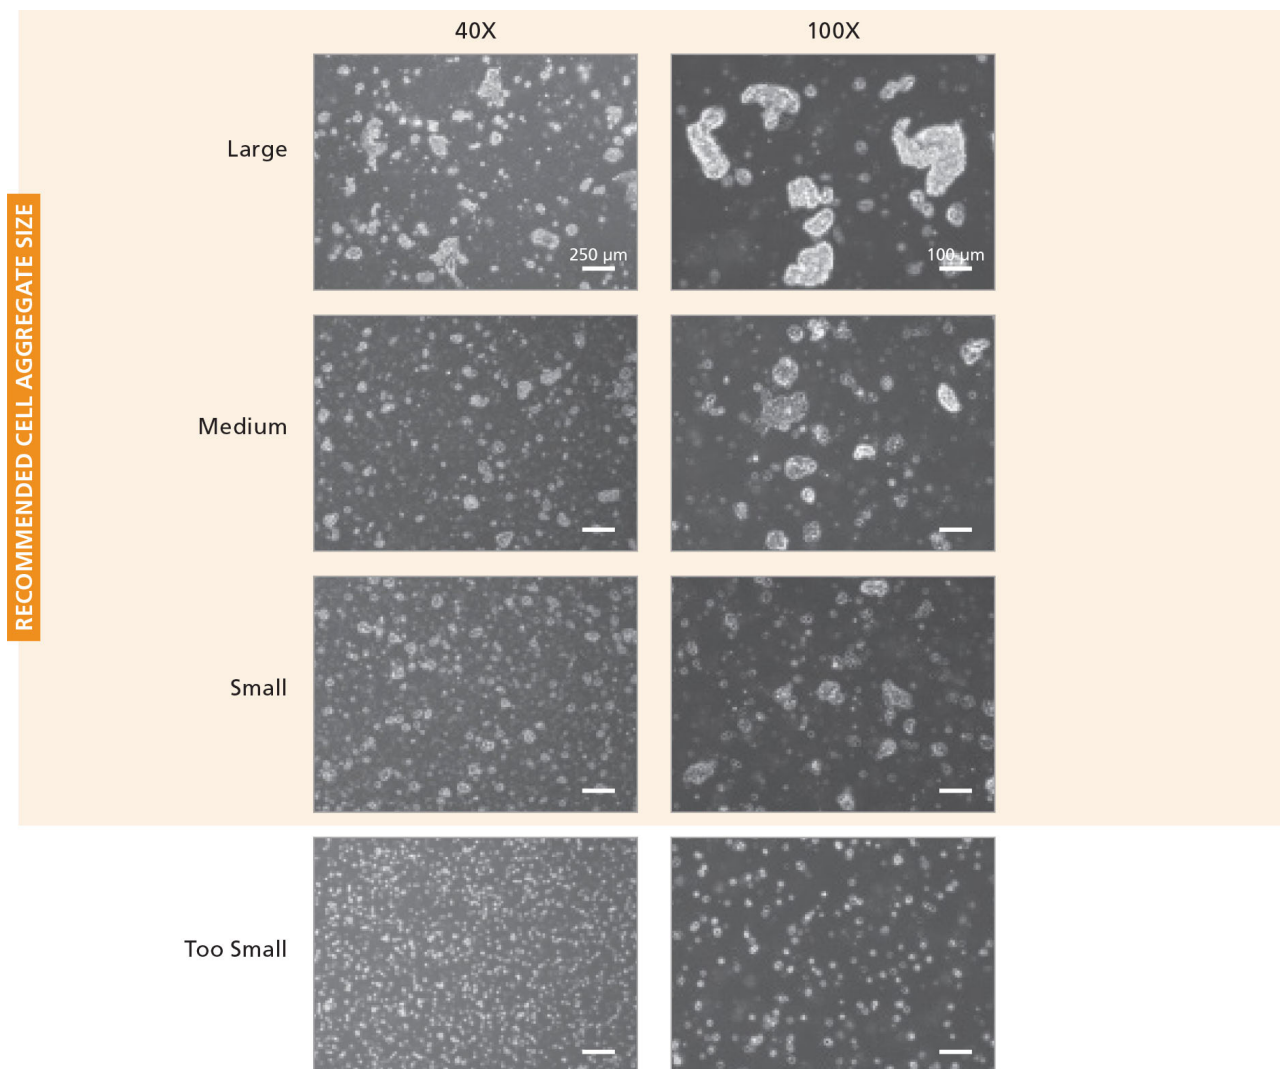

Figure 5. Acceptable Size Range for Cell Aggregates at the Time of Plating
*Number can be adjusted to obtain desired cell aggregate size (section 6.3). Refer to Figure 5 for examples of appropriate cell aggregate sizes, and adjust procedure as necessary to achieve desired results.
*For representative images see Figure 5.
At the time of plating, the desired cell aggregate size can be obtained by adjusting the number of times the cell aggregate suspension is pipetted up and down (Table 2). Refer to Figure 5 for a recommended range of cell aggregate sizes. Do not generate single cells.